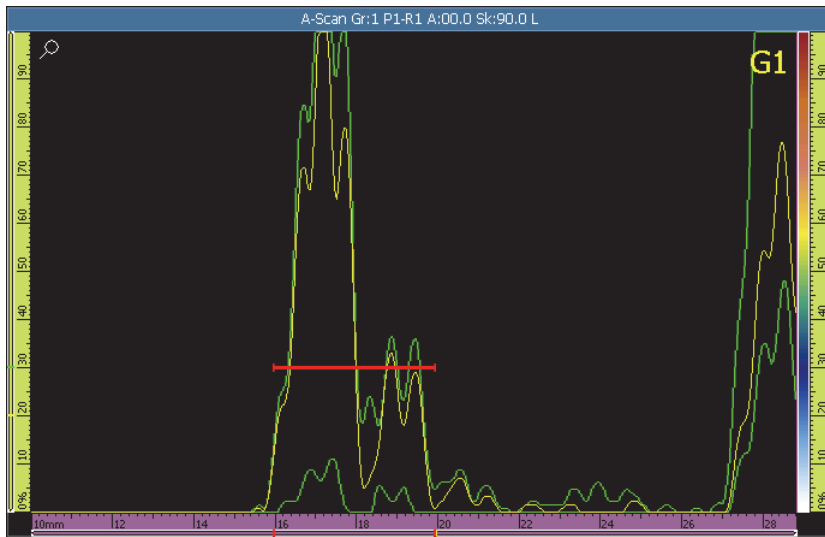

Figure 5-6 Building the envelope for the wedge delay calibration
- a) Carefully move the probe back and forth along the calibration block and over the reflector to build a smooth signal envelope (see Figure 5-6 on page 118).